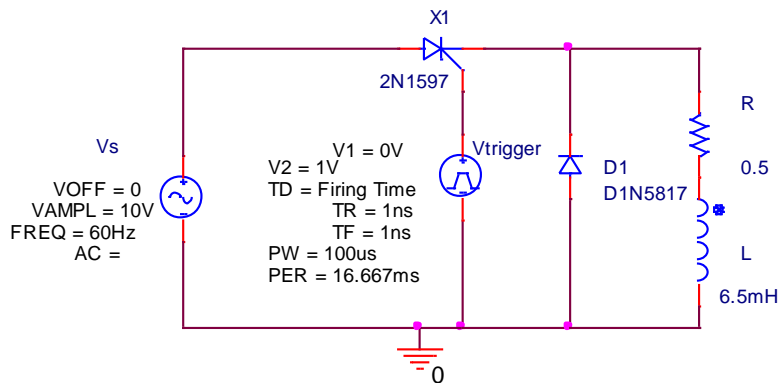

Figure 4: Half-wave controlled rectifier with RL load and freewheeling diode
6. Next, add a freewheeling diode parallel to the load, as shown in *figure 4*, and observe all three waveforms as you did in *step 5*. 1N5817 is a Schottky diode with low forward voltage drop as compared to a regular silicon rectifier diode.